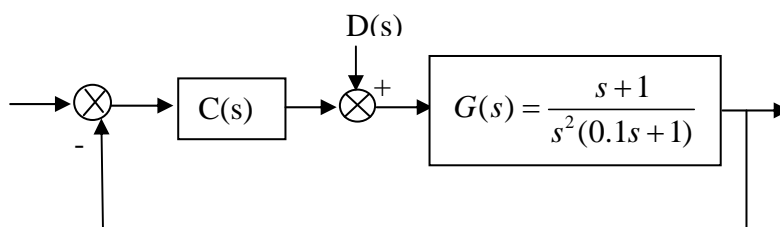

Figure 11.2
11.2 Consider the control system shown in Figure 11.2.